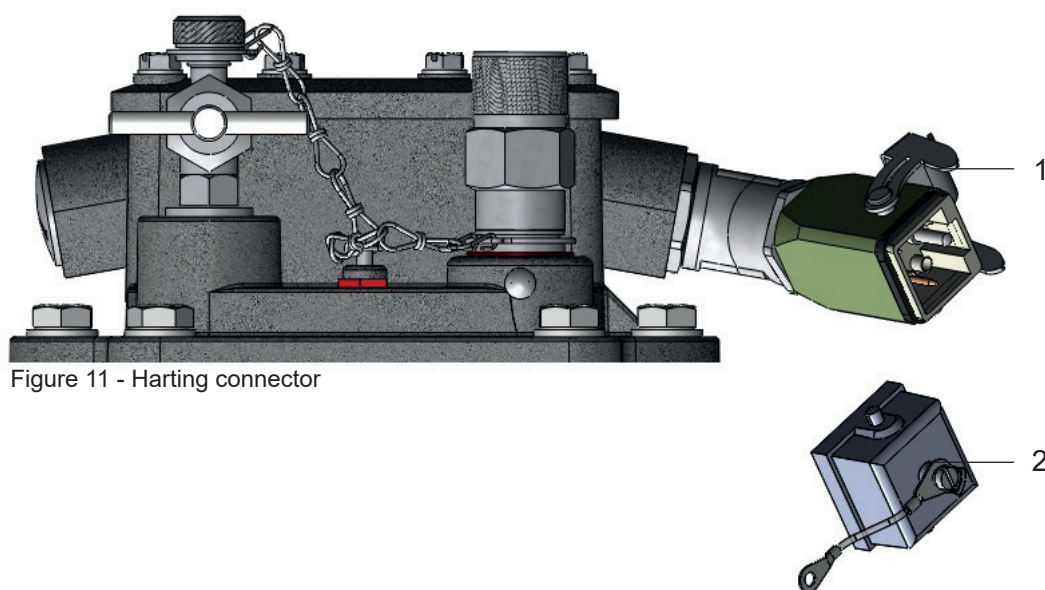

Figure 11 - Harting connector
- Remove the safety catch (Fig. 11/ No. 1)
- Remove the cap (Fig. 11/ No. 2)